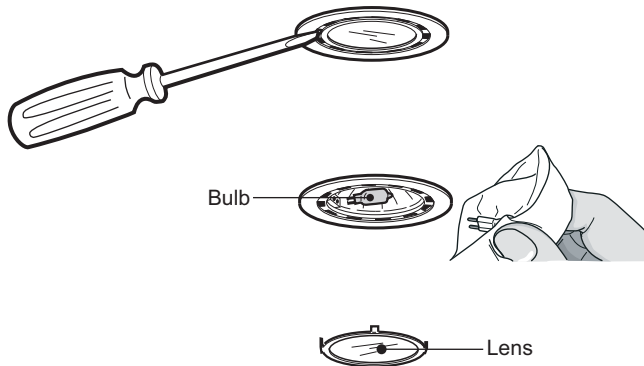

Figure 8: Halogen Light Replacement
1. Using a flat edge from a screwdriver or equivalent tool, pry loose the lens cover, as shown in *Figure 8*.